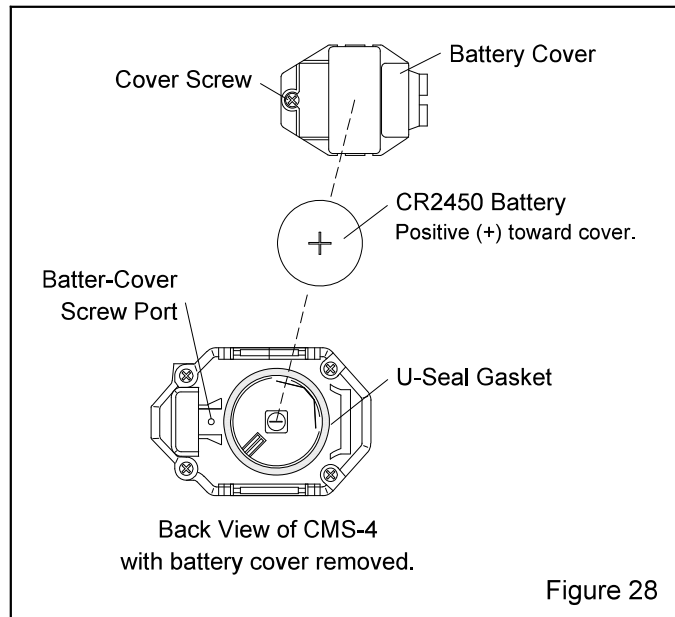

Figure 28
6.1.5 Carefully install the new battery, noting the polarity indications on the underside of the battery cover and in the battery compartment. The negative (-) side of the battery goes into the monitor, as shown in Figure 28.